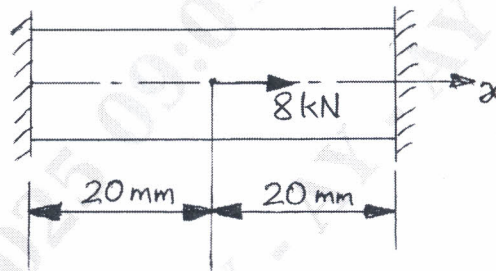

Fig.Q.2(b)
b. Use Rayleigh-Ritz method to find stress at mid point of a bar shown in the Fig.Q.2(b). Take $E = 70 \text{ GPa}$, $A = 100 \text{ mm}^2$. Assume the displacement model to be a second order polynomial. (14 Marks)